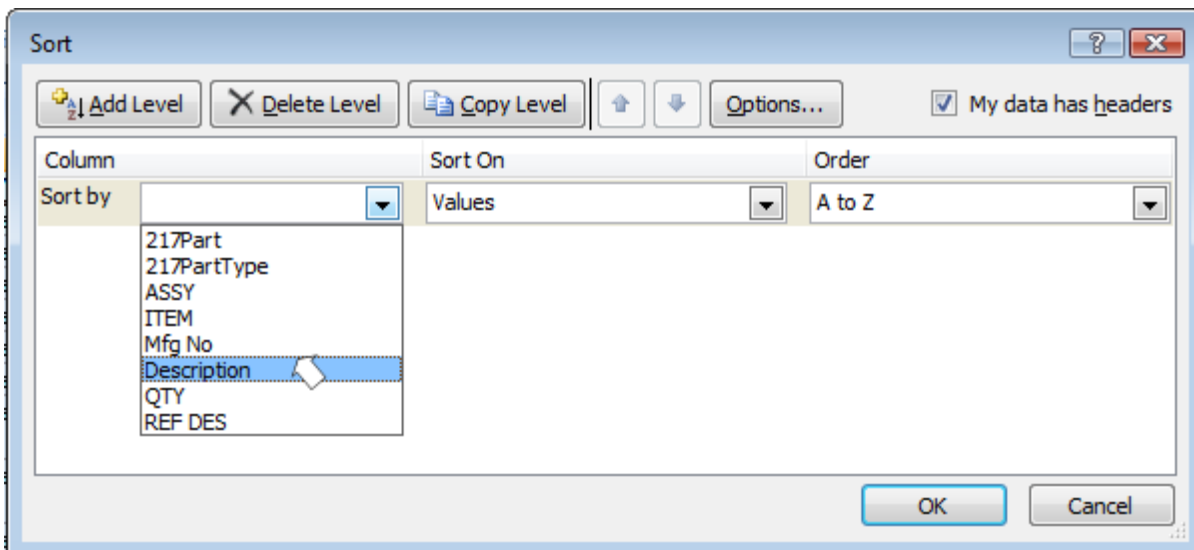

Figure 5. Sort Criteria Selection by "Description"
13. **SORT** the BOM. Begin by highlighting (selecting) all columns and rows that are used by the combined BOMs, including the header row of Row 1. Then, select using the "**Data**", "**Sort**", "**Expand the selection**", "**Sort...**", check "**My data has headers**", then select the desired column in the **Sort by** pull-down. Select the column that could best group the BOM data so that 'like' parts will be in adjacent rows (reference Figure 5). Usually, the part description is the best field for this purpose, although the BOM's part number field may also be effective if the user's organization has implemented a semi- intelligent part numbering system. Finally, click on **OK**.